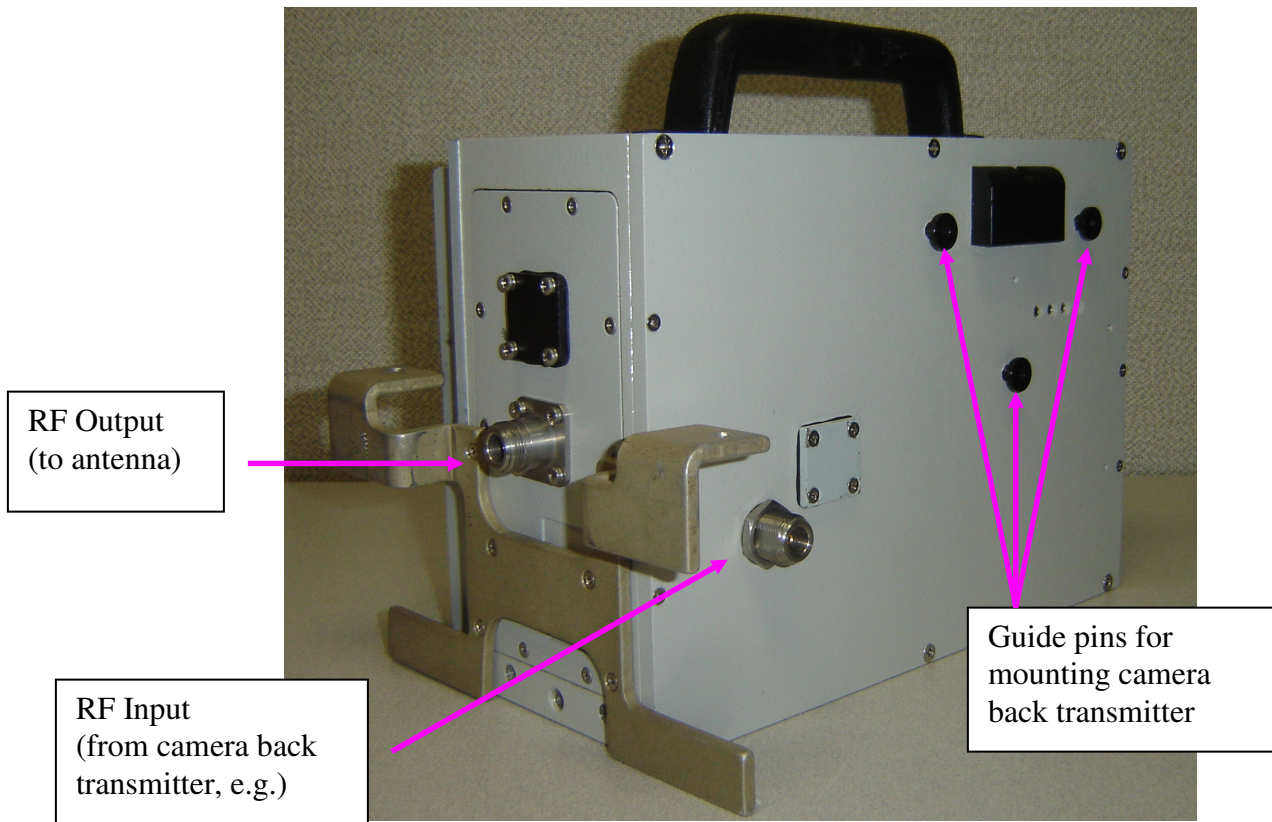

Figure 2: GoPac Guide Pins & RF Connectors
1. Orient the camera back transmitter mounting slots to align with the GoPac guide pins as shown in (Figure 2).